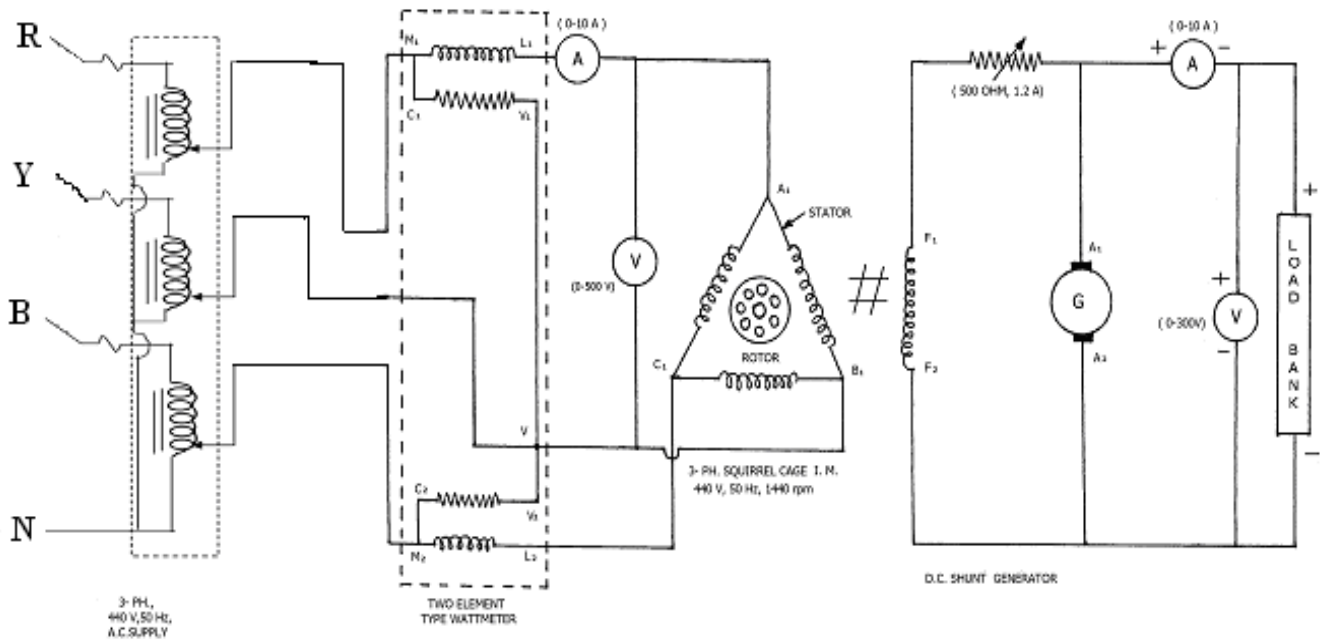

Figure-1
- 1) Connect the circuit as shown in Figure-1.